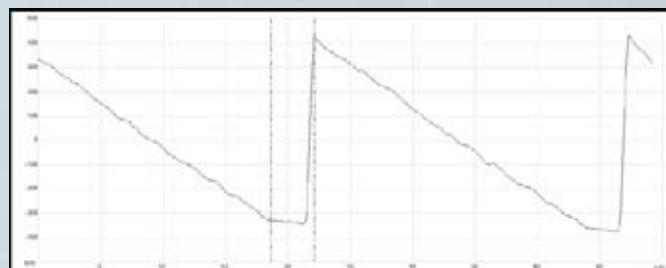

Figure 3: AFM of blazed grating showing.
Figure 3: Combinatorial biological nanoarrays generated by parylene stencils combined with inkjet printing. (A) Schematic diagram showing the process of superimposing a second inkjet print-run immediately over the first print to generate six different combinations of antibodies from an initial pool of three separate antibodies. (B) Pseudo-color merged fluorescence image showing the combinatorial array that can be inkjet printed onto the parylene template. (C) Antibodies nanoarrays of six different biomolecular combinations were generated after parylene stencil peel-off, corresponding to the spots demarcated within the boxed region in (B).
Utilizing the advanced tools and staff nanofabrication expertise at the CNF, Christine demonstrated a new nanofabrication process flow to create parylene-C stencils with nanoscale openings. Using these stencils, protein arrays with array feature sizes down to 90 nm were patterned (Figure 2). In collaboration with Professor David Lin, she further combined these parylene stencils with inkjet printing, to rapidly generate multi-component, combinatorial protein nanoarrays with high throughput (Figure 3).